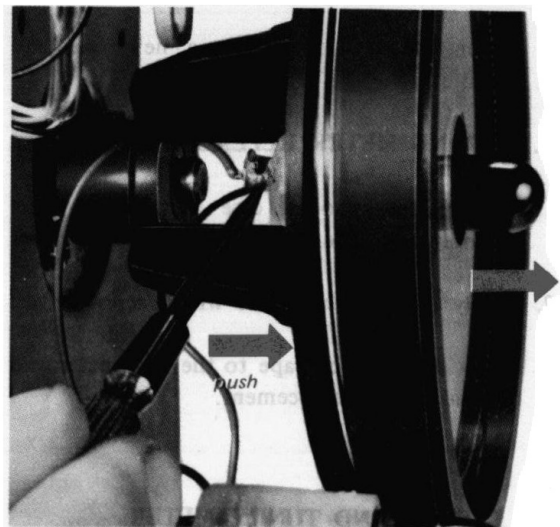

Fig. 2-9. Dial lamp removal
- 2. Slide the lamp socket forward to permit removal of lamp as shown in Fig. 2-9.